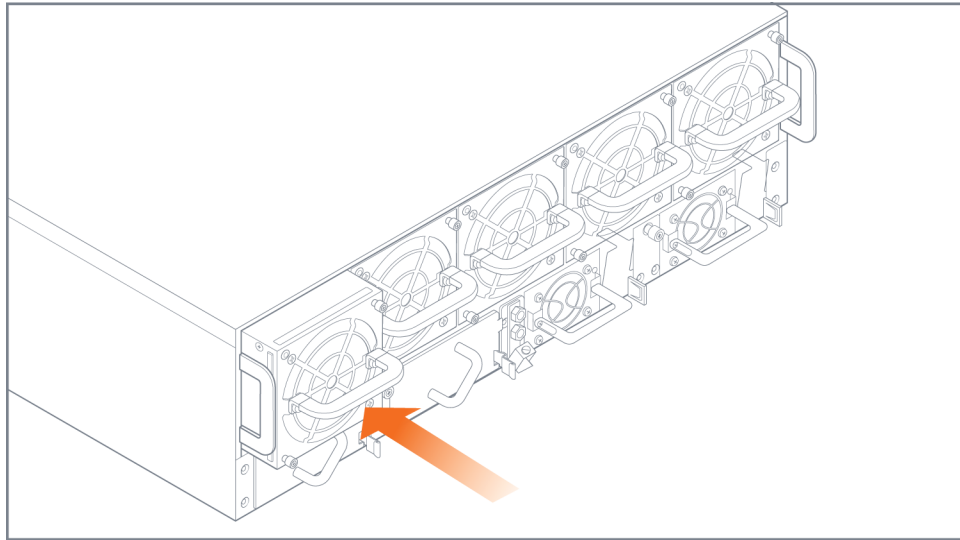

Figure 4-14: Fan Module Insertion
4. Insert the fan modules into the fan tray one at a time as shown in Figure 4-14 on page 81.